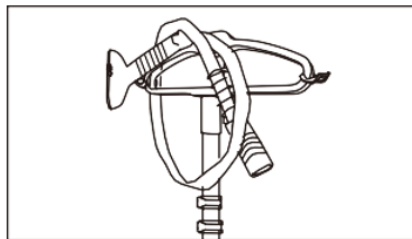

Fig. 10
- Wrap the steam hose around the telescopic stand once (see Fig. 10). Place the steam nozzle on the steam nozzle holder.